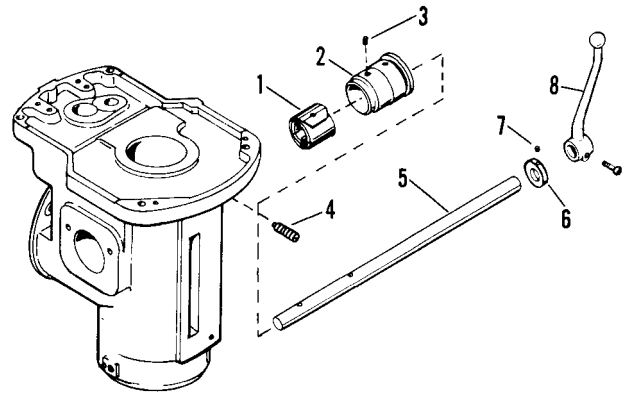

Figure 18. Replacing Quill Retract Spring
44. REPLACING QUILL RETRACT SPRING (figure 18)